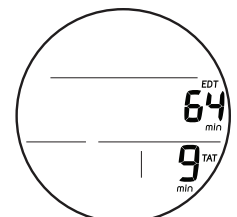

Fig. 103 - DECO STOP ALT 2
**Deco Stop Alt 2**, information includes (Fig. 103) :